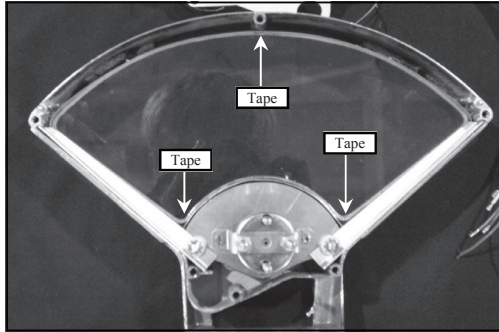

Figure 8
Step 5: Use a very small amount of trim tape (supplied) around bezel and rim then place large glass into the housing in order to cushion glass and prevent glass rattle. (Figure 8)
Step 6: Place gear selector movement over stock bracket. (Figure 8)